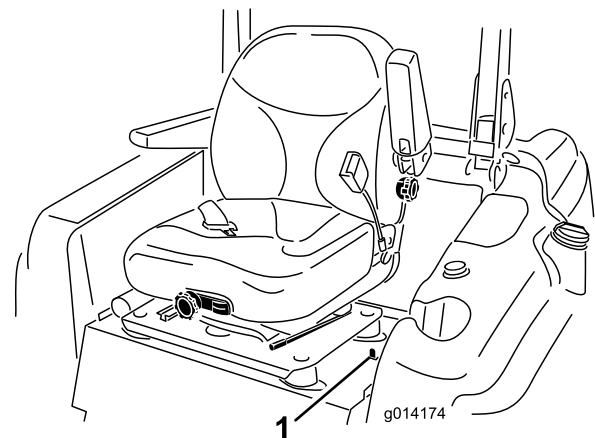

Figure 17
1. Move the seat latch, located on the left side of the seat, rearward to unlatch the seat and pull forward on the top of the seat (Figure 17).